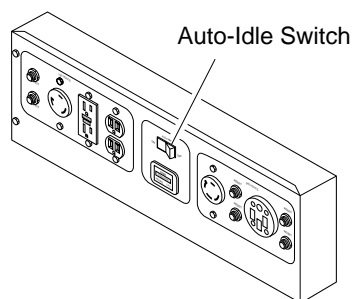

Figure 26 - Control Panel
1. If engine is cold, turn the Auto-Idle switch OFF (see Figure 26).
**Note:** The 250 Volt/50 Amp receptacle is not connected through the Auto-Idle circuit. The Auto-Idle switch must be turned off to get full power out of this receptacle (see Figure 26).